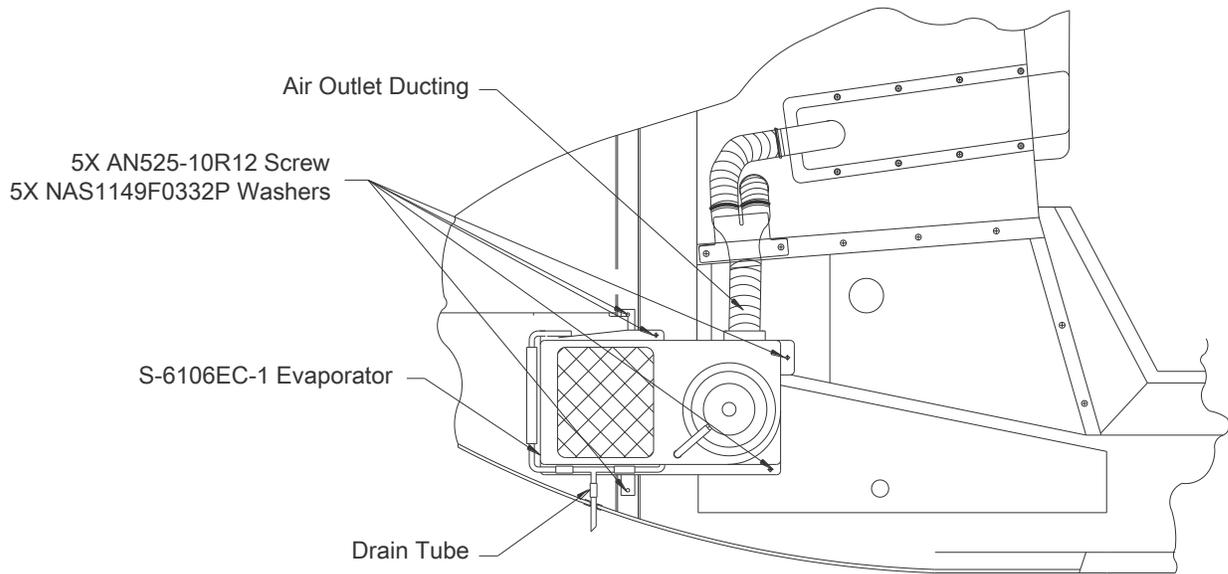

Figure 13: Forward Evaporator - View G-G
8. REMOVE AND REPLACE FORWARD EVAPORATOR (Figure 13)